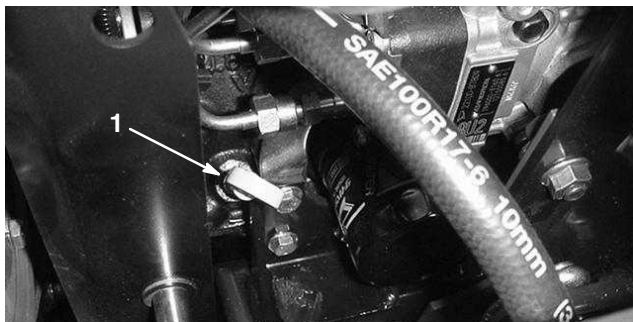

Figure 17
2. Remove dipstick and wipe it with a clean rag (Fig. 17). Insert dipstick into tube and make sure it is seated fully. Remove dipstick and check level of oil.